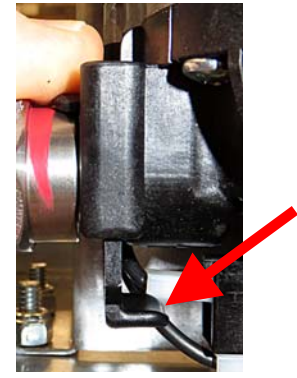

**Figure 16**
17. Remove the two (2) nuts on the outside left of the ATO tray, as viewed from the rear (see Figure 16).